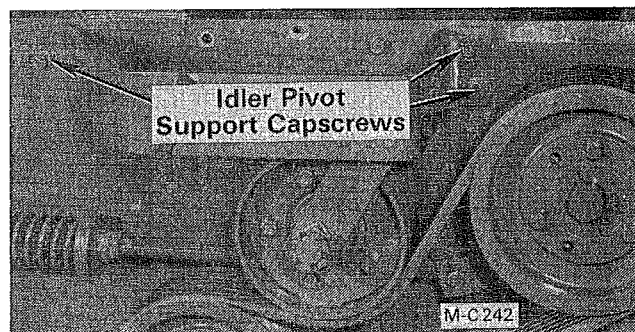
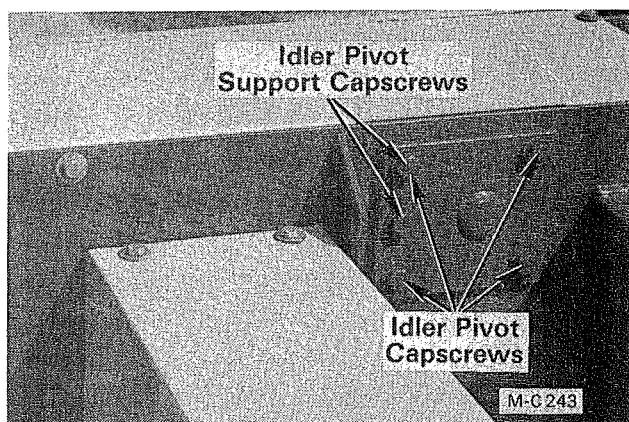

Figure 35
Figure 36
5. Loosen the idler pivot support capscrews, see Figure 35, and the idler pivot capscrews, see Figure 36.